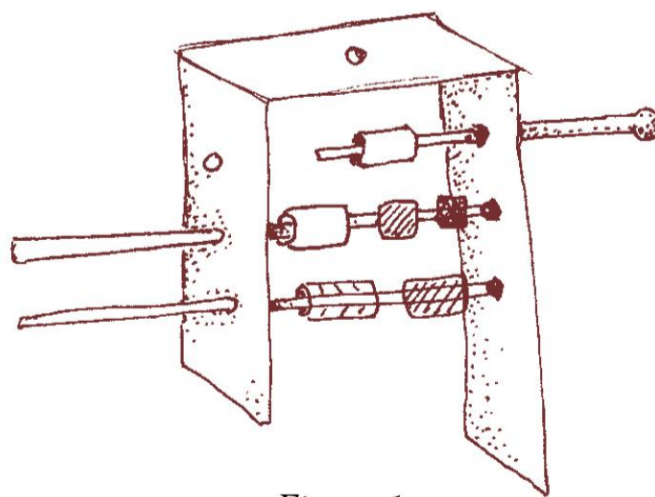

Figure 1
**9** Place beads on the wire, then continue to insert the wires into the other side of the silver piece on the necklace (see figure 1). Complete all three before moving on.